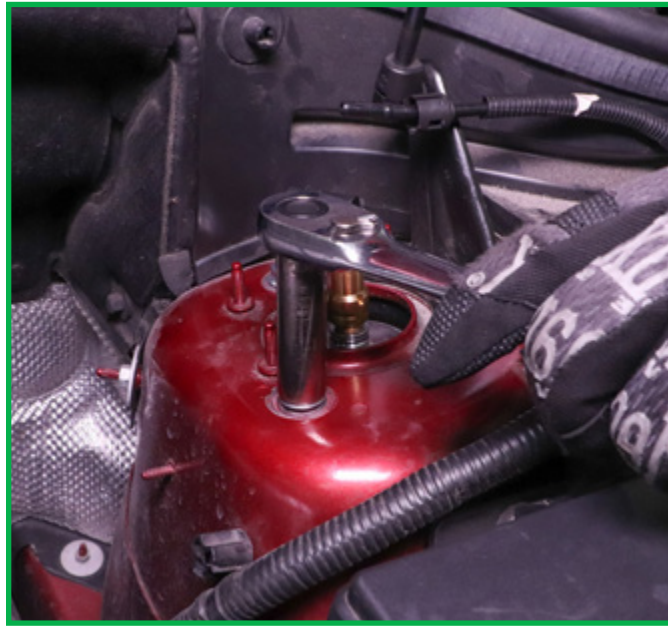

FIGURE 38
9. Reinstall the three (3) top mount nuts and tighten to manufacturer's specifications. (Figure 38)